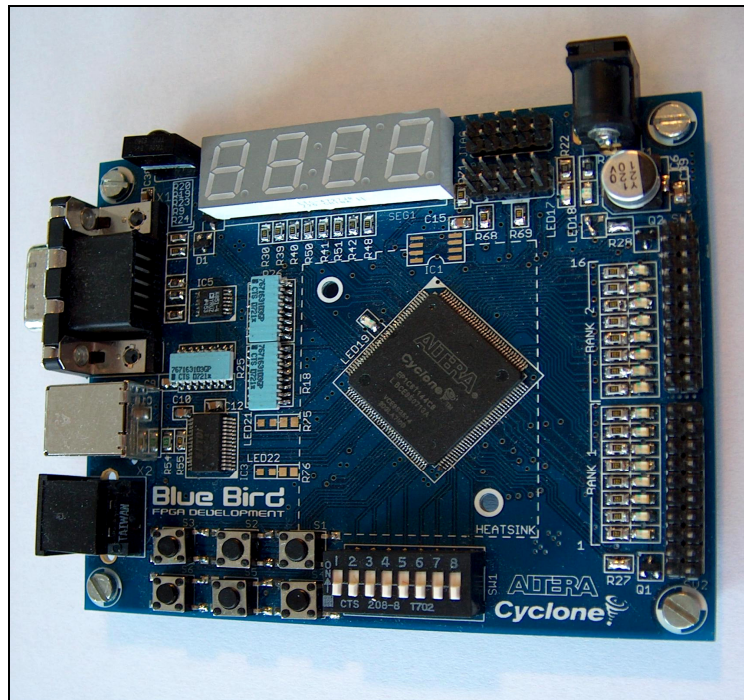

Figure 2.1 – Fully assembled BlueBird FPGA Kit (Revision B).
A photograph of a fully assembled BlueBird FPGA kit is shown in Figure 2.1. It depicts all the layout of the board and indicates connectors and key components.
2. Connect the ByteBlaster or USB Blaster to the JTAG header (see Figure 2.1)